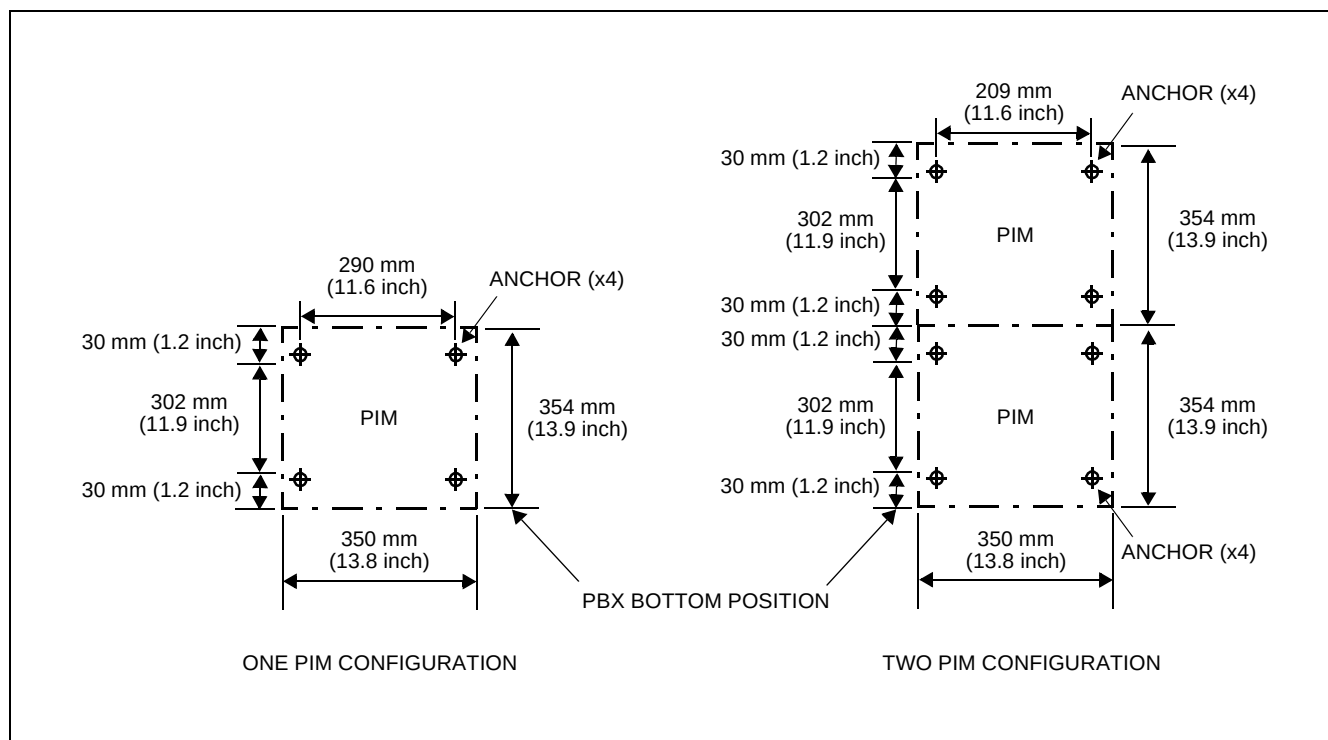

Figure 002-1 Wall Mounting Points
Locate and mark the wall mounting points as shown in Figure 002-1.
- (2) Using appropriate fasteners (locally provided; see Table 003-1) for the type of wall constructions, secure the PIM to the wall. For the wall mounting points, refer to Figure 002-1 in NAP-200-002.